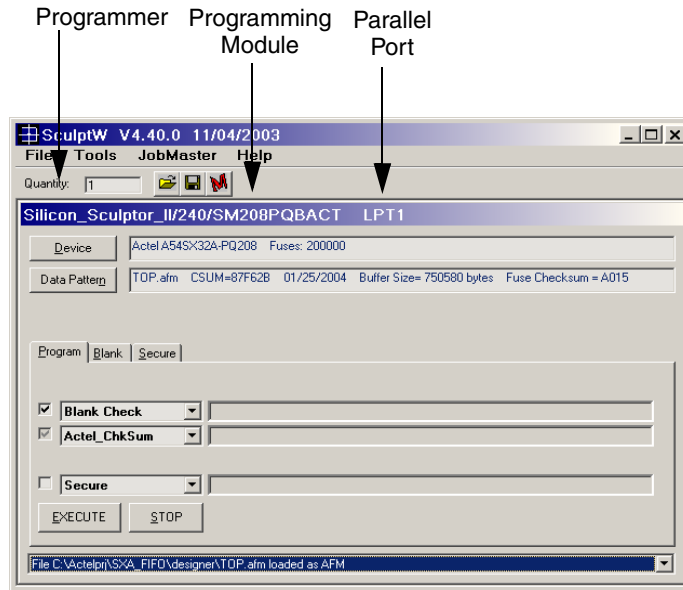

Figure 1-2. SculptW Detects Silicon Sculptor
- **Programmer detected or selected.** In the example shown in Figure 1-2 on page 13, the selected programmer is **Silicon Sculptor II**.
- **The technology adapter and socket module detected by SculptW.** In the example shown in Figure 1-2 on page 13, the technology adapter and socket module is **SM208PQBACT**.
- **The location of the parallel port that detects the programmer.** In the example shown in Figure 1-2 on page 13, the parallel port is **LPT1**.